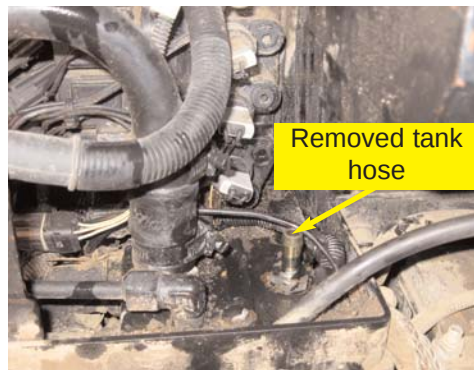

Figure 3d. Removed tank hose.
- c. Loosen the clamp and remove the rubber hose from the nipple fitting. (Figure 3d.)